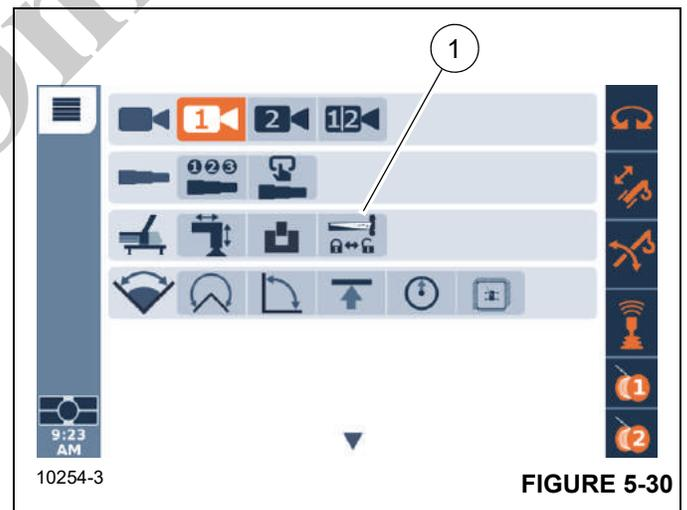

FIGURE 5-30
2. Use the ODM navigation pad or jog dial to highlight the Boom Extension Deployment/Stowage icon (1, Figure 5-30).